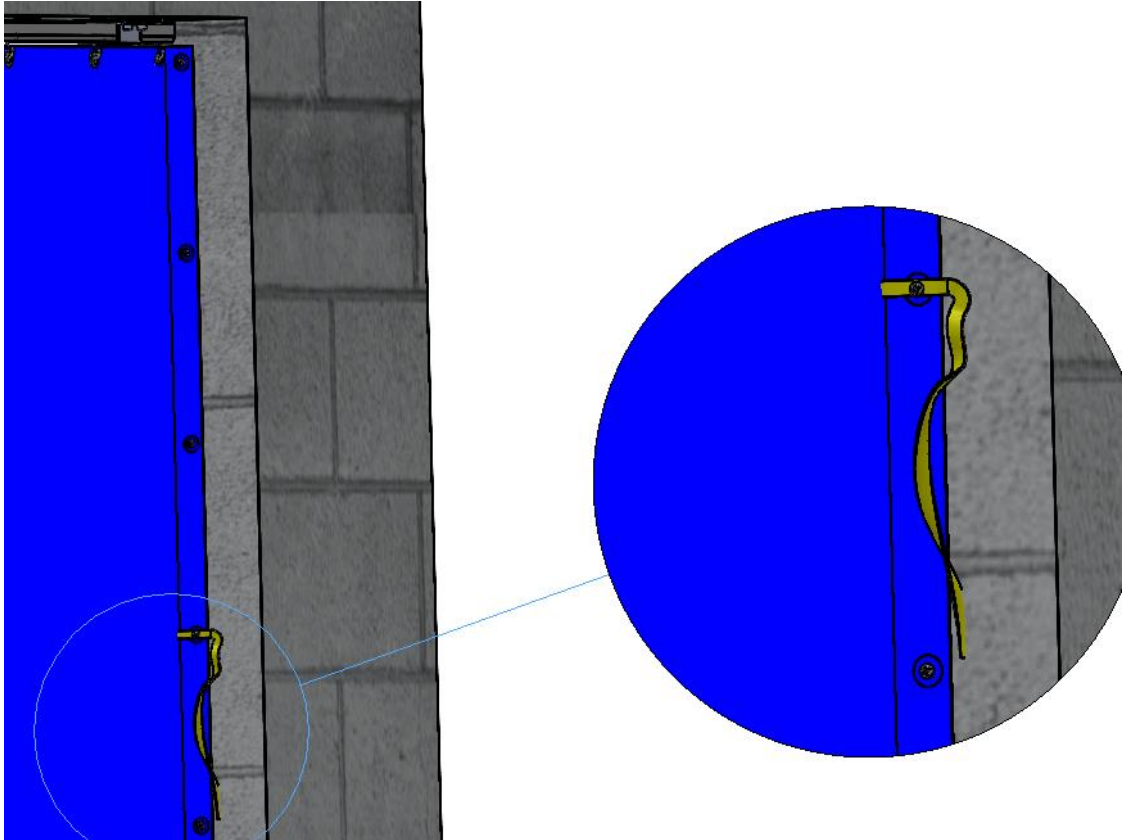

Figure 5 Install Tie-Back Strap
1. At the far end of the Curtain, thread Tie-Back Strap through a grommet at about waist high. (Figure 5 Install Tie-Back Strap)